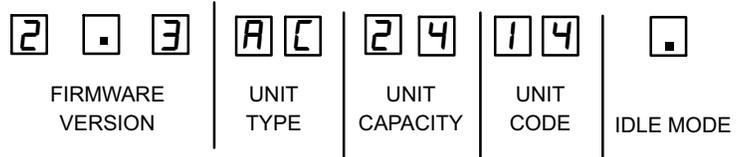

Figure 15. Outdoor Control 7-Segment Unit Status Displays
If the single-character display shows three (3) horizontal lines, the unit selection code needs to be programmed. Press and hold the button until the P U menu option is displayed, release button. The single-character display displays the selected mode per example in figure 15 on page 36. When the desired unit selection code appears, press and hold the button until it stops flashing, then release.